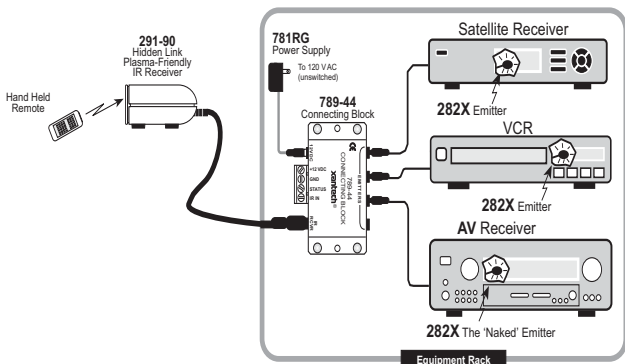

Fig. 3: 282X Basic System Diagram
- Fig. 3 below illustrates a typical basic system using the 282X Emitter.